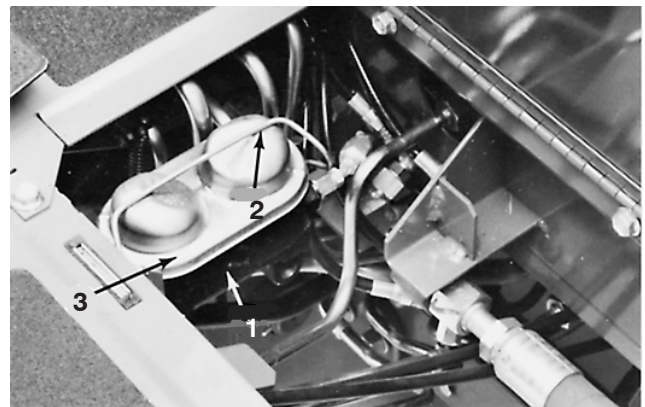
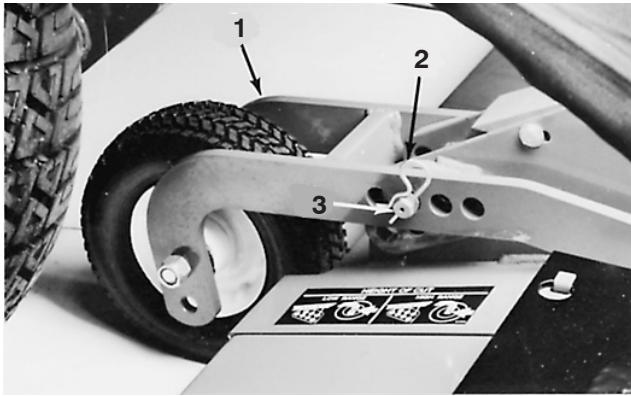

Figure 59
Figure 62
- Snap cover bail off cover and remove cover from master cylinder (Fig. 59).
3. Remove hairpin cotters and clevis pins from the (2) rear castor assemblies (Fig. 62). Set the left hand clevis pin aside and insert the right hand clevis pin into the most forward holes in the castor wheel arm on the right side of the unit (Fig. 59). The castor arm and pin should be resting on top of the unit.